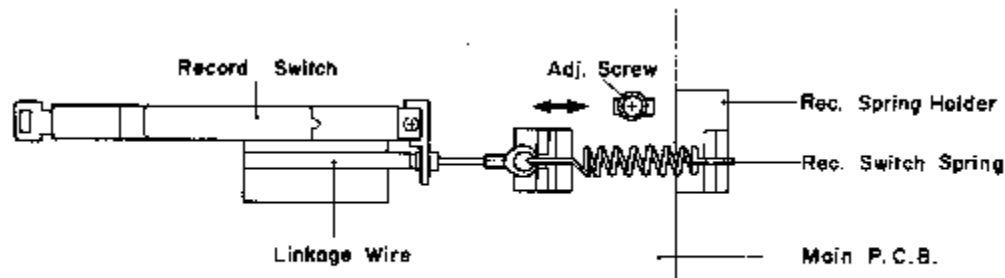

Fig. 4.24.1
- (1) Set the N-660ZX in stop mode.
- (2) Loosen the screw of the Record Spring Holder, and shift the Record Spring Holder in order to remove the looseness of the Linkage Wire as shown in Fig. 4.24.1. Then tighten the screw for fixing the Record Switch Holder. (In this case, the Record Switch should be positioned at Play side. If in the Record position, it will be defective.)